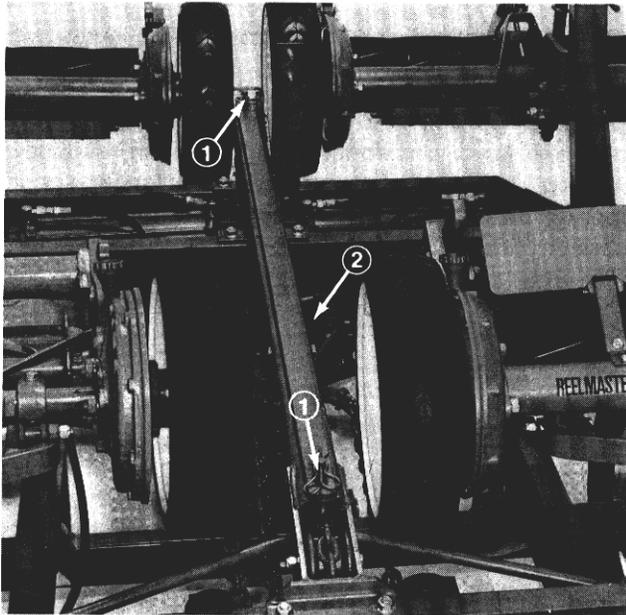

Figure 13
1. Place transport strap onto pins, located on center frame channel, and secure with (2) hair pin cotters (Fig. 13).
2. Remove hairpin cotters securing transport straps to center frame channel and lift off straps (Fig. 13).